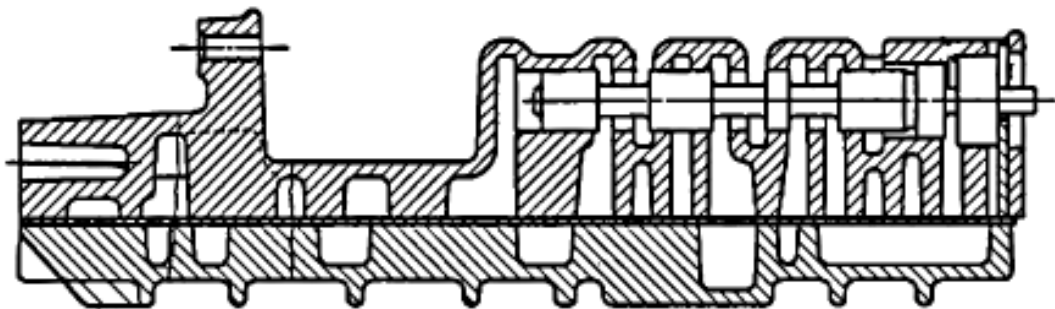

Figure 8.48 1 — 2gear shift valve
- e. Install the 1-2 Gear gear shift valve, plug and fixed bolt. Refer to Figure 8.48. Install the 3-4 Gear gear shift valve and fixed bolt.